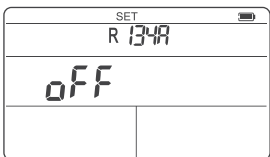

Fig. 9 Auto shut-off setting
2. Press **MODE** twice in succession to go to the auto shut-off setting interface (Figure 9)